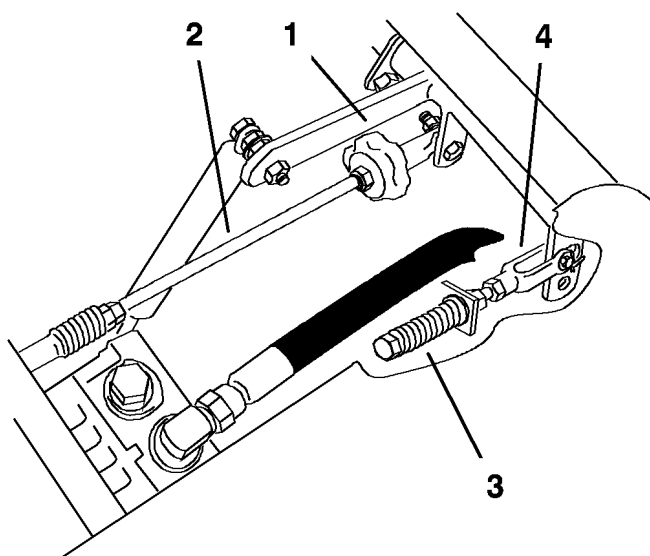

Figure 62
2. Adjust the pump rod length by rotating the knob, in the appropriate direction, until the wheel is still or slightly creeping in reverse (Figure 62).